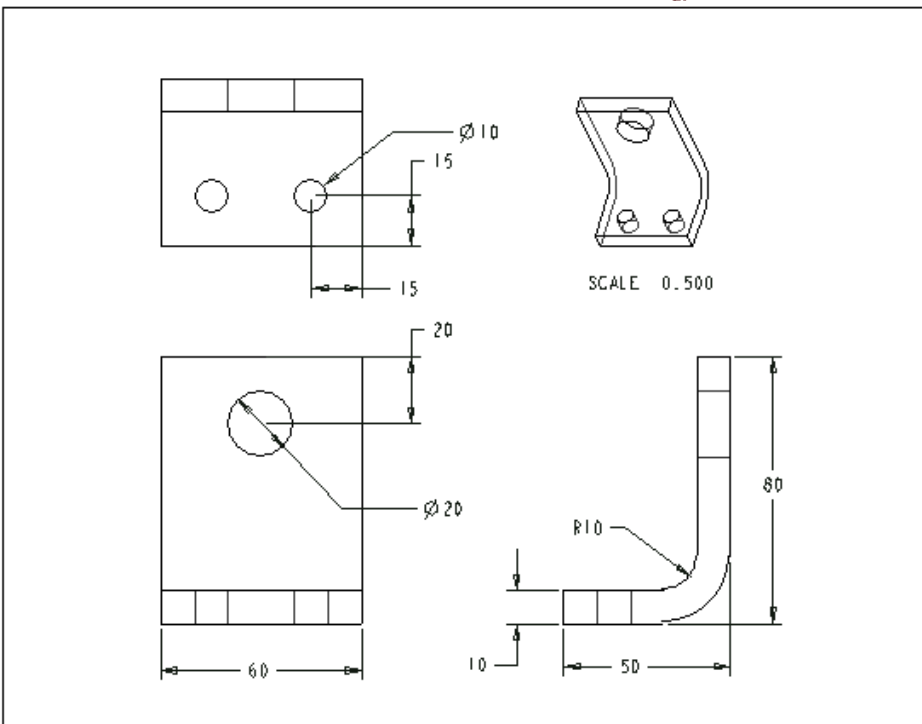

Figure 6.1
3. Draw the three sides of the following object as shown in Figure 6.1
4. Set the dimensions as shown in Figure 6.1.